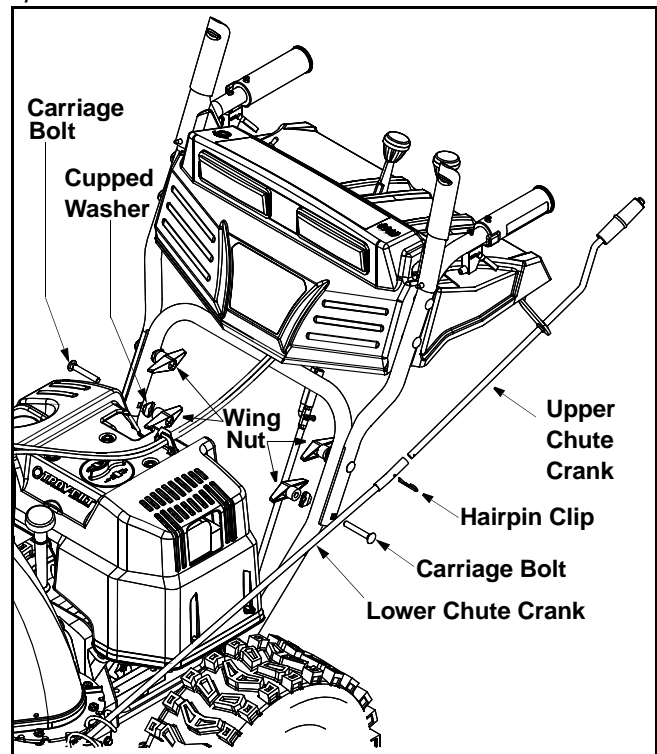

Figure 2
- Remove the **lower** plastic wing nut, cupped washer and carriage bolt from each side of the lower handle. See Figure 2.
- Secure the upper handle and lower handle with the two plastic wing nuts, cupped washers and carriage bolts previously removed. Attach these hardware on the lower hole in the handles. See Figure 2.
- Tighten the two wing nuts already in place on the upper holes and secure the handles firmly. Slide the shift rod connector down over the end of the lower shift rod. Tap the connector until it **locks** over the lower shift rod. See Figure 2.
- Align the two holes on both chute cranks and insert the hairpin clip removed earlier, through these holes. See Figure 2.